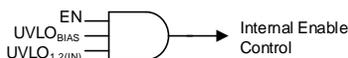

图 45. Simplified Turnon Control
Controlling when a single power supply turns on can be difficult in a power distribution network (PDN) because of the high power levels inherent in a PDN, and the variations between all of the supplies. 图 45 and 表 2 show how the LDO turnon and turnoff time are set by the enable circuit (EN) and undervoltage lockout circuits ( $UVLO_{1,2(IN)}$  and  $UVLO_{BIAS}$ ).